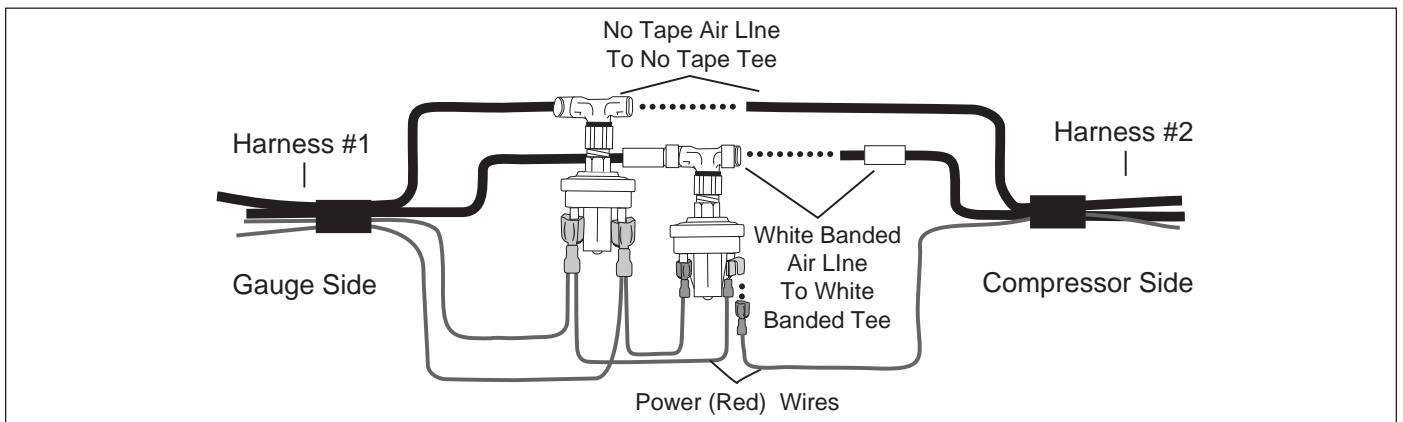

Figure 6
5. Now connect Wiring Harness #2 to Wiring Harness #1 inside the vehicle. Simply connect the red wire from Harness #2 and the banded and no tape air lines to the Low Pressure Sensors. See Figure 6 for air line and electrical connection.